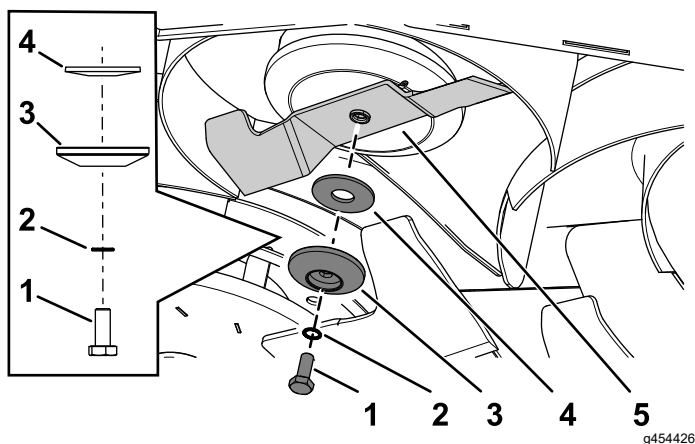

Figure 104
2. Remove the blade bolt, serrated washer, blade retainer, curved washer, and blade from the spindle shaft (Figure 104).